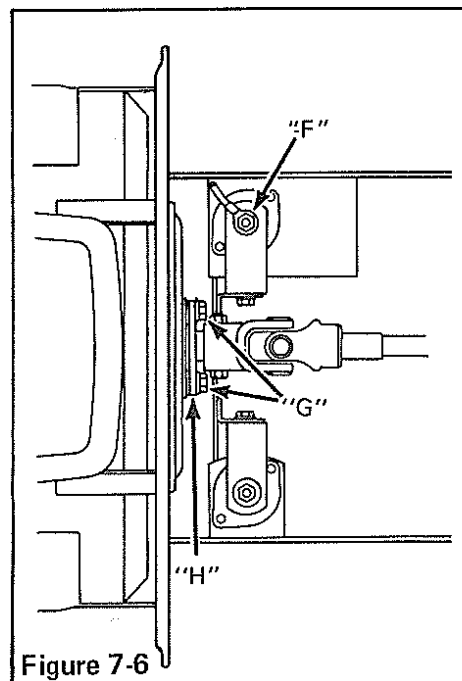

Figure 7-6
8. Remove two bolts (G), Figure 7-6 securing engine hub to flywheel. Notice the flat washer between hub (H) and flywheel.
9. Scribe line on front engine supports and L.H. rear support along frame. Loosen two bolts (I) on each of the engine supports.
Remove R.H. rear engine bolt (F), Figure 7-6 & 7-7. Place star washer on negative battery cable.
1. Set engine on R.H. rubber mount in rear. Lift engine and install (red) starter wire (K). Insert hub (H), Figure 7-6, of drive shaft into pilot hole in flywheel. Line up scribed line on front and rear engine supports with frame, insert two bolts (I) through each support. Secure mounts in place, holding with a gap of 1/2" (13 mm) between the bottom surface of the engine support and inside surface of the frame.